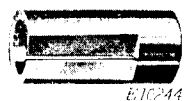

FIG. 32
Insert the split bushing (Fig. 32) in the hole indicated at (B), putting the flattened end in first from the front of the machine so that the looper lever (D) will bear against the completely rounded end of the bushing. The slot in the bushing must be exactly in the centre at the bottom, so that contact of the wick at the end of the hinge pin (H) will be made, through the slot in the bushing, with the primary wick (B, Fig. 6). Then slightly tighten the set screw (A).
To replace the two split bushings (A and B) for the feed rock shaft hinge pin: Into the hole at the left, enter the flattened end of the bushing (Fig. 32) in an outward direction (toward the left). Into the hole at the right insert the flattened end of the bushing and push the bushing outwardly (toward the right).